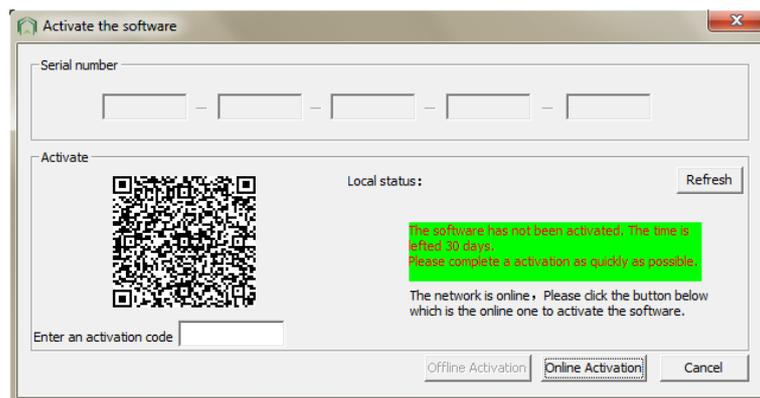

Figure 8
2. If not connected to the Internet, scan the QR code using a mobile phone (Turn on GPS positioning) and enter the Activation code provided in the box marked 'Enter an activation code'. Then click 'Offline activation' (Figure 8)